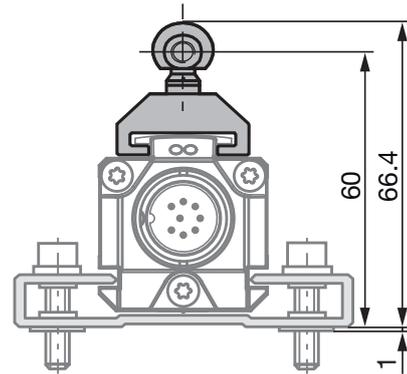
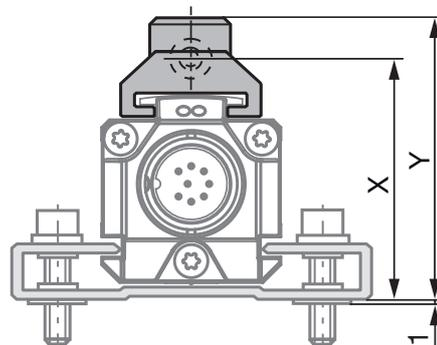
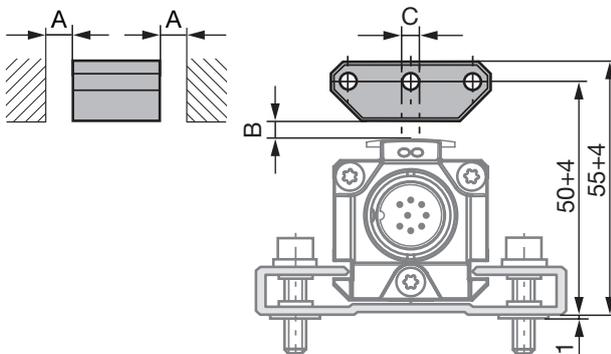
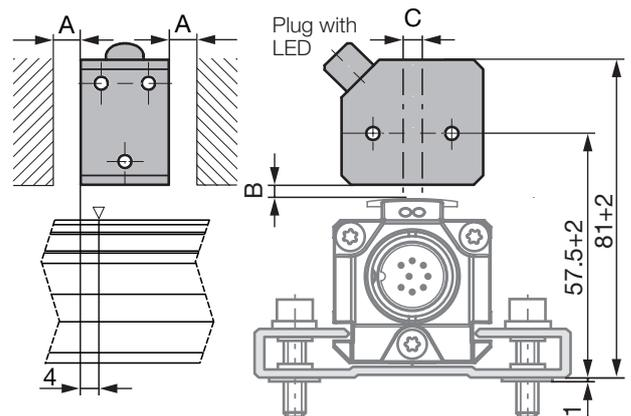

Fig. 4-1: Dimensions and distances with BTL5-F-2814-1S magnet
Fig. 4-3: Dimensions and distances with BTL5-M/N-2814-1S magnet
Fig. 4-4: Dimensions and distances with BTL5-P-3800-2 magnet
Fig. 4-8: Dimensions and distances with BTL5-P-4500-1 electromagnet (24 V/100 mA)
i The BTL in profile housing is suitable both for floating, i.e. non-contacting magnets (see Fig. 4-4 to Fig. 4-8) and for captive magnets (see Fig. 4-1 to Fig. 4-3).
- Ensure that the distance A between parts made of magnetizable material and the magnet is at least 10 mm (see Fig. 4-4 to Fig. 4-8).
- Maintain the following values for distance B between the magnet and BTL and for center offset C (see Fig. 4-4 to Fig. 4-8):
i The measuring range is offset by 4 mm towards the BTL plug (see Fig. 4-8).